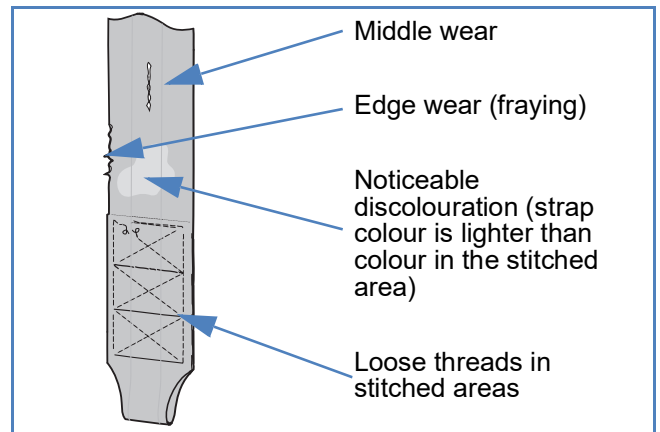

Figure 11
- Look for any signs of wear or discoloration as shown on Figure 11.